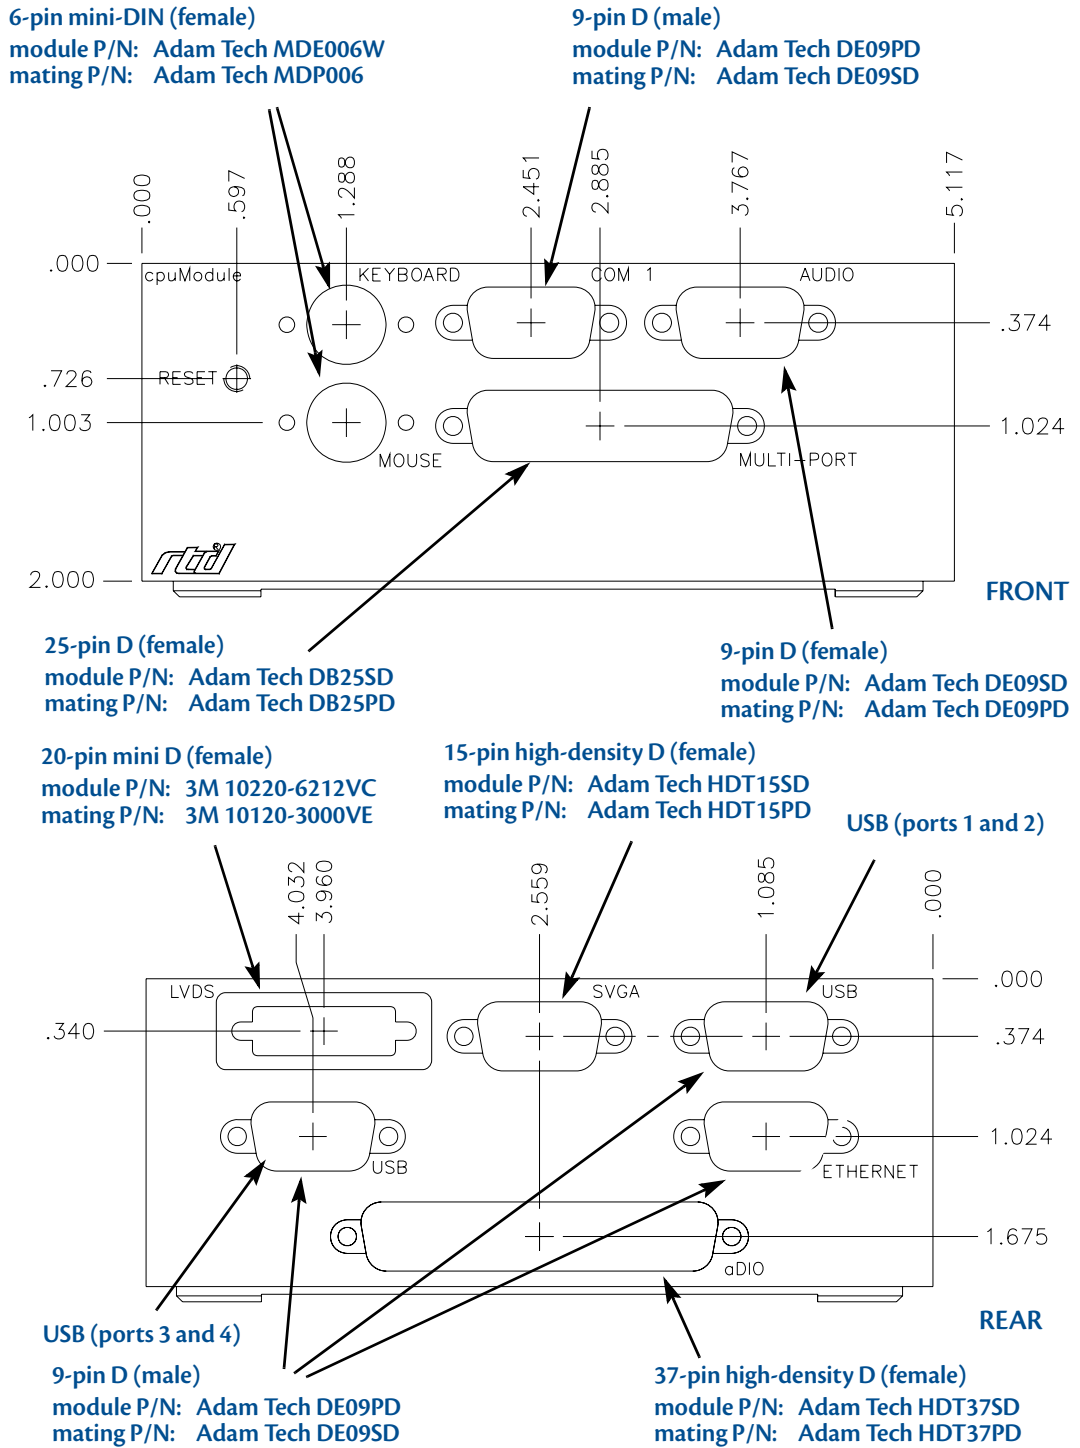

Figure 10 IDAN-CMD58886PX-BRG Connectors¹
1. Heatsink fins (not shown in Figure 10) extend 0.75 inches from the sides of the IDAN frame.